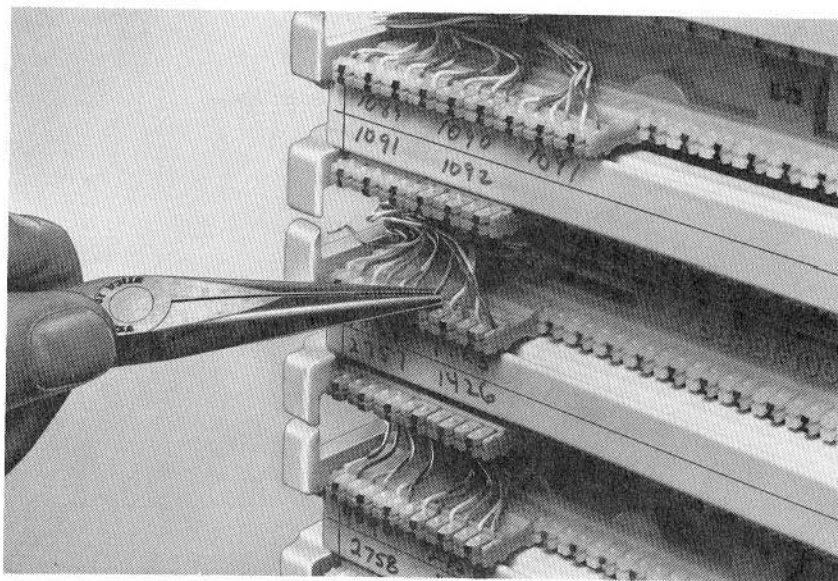

Fig. 26—Removing Cross-Connect Wire
- 3.23** To remove a cross-connect wire, use long-nose pliers to grip the wire where it enters the connecting block (Fig. 26) and pull straight out. Remove any fragments of insulation remaining on the clip or its cavity using a KS-6320 orange stick.